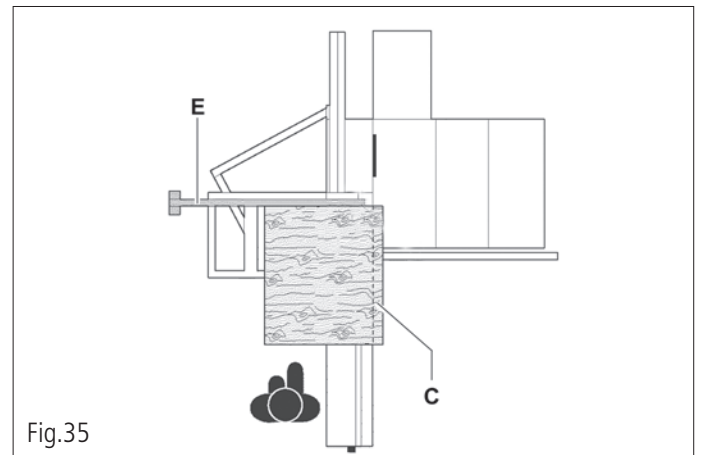

Fig.35
When machining large panels, position the telescopic ruler and the squaring frame as per Fig. 35; with this position maximum cutting length is obtained.
1) The first cut - slide the sliding beam completely to the right; Place the panel (C, Fig.35) against the aluminium ruler (E, Fig.35); proceed with cutting, moving the sliding beam forward against the saw blade.